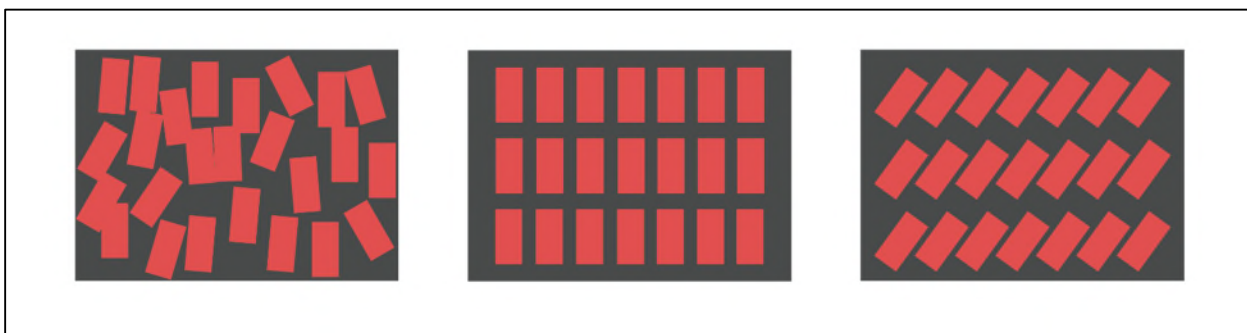

Figure 6. “Liquid Crystals in Education” Graphic.
- Students are laying on the grass, disguised as liquid crystal molecules. In liquid crystals, the molecules show a high degree of organization and alignment in some regular order (*Fig. 6*).